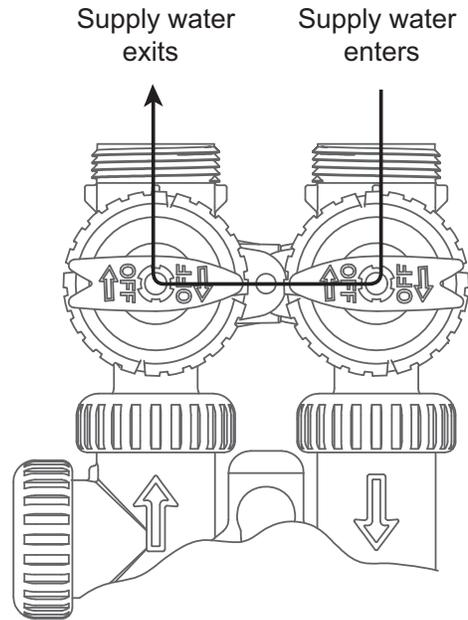

Figure 2 Bypass Position
- b. Bypass Position:** The inlet and outlet handles point to the center of the bypass. The system is isolated from the water pressure in the plumbing system. Untreated water is supplied to the building. Refer to Figure 2.